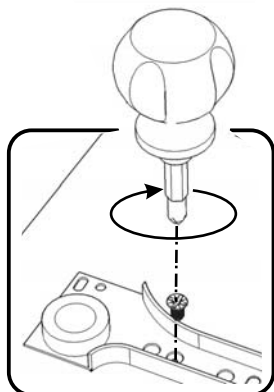

Figure 2
Attach Left Guides to Side Frame (B) and Middle Panel (D) with Varianta Screws. (See Figure 2)